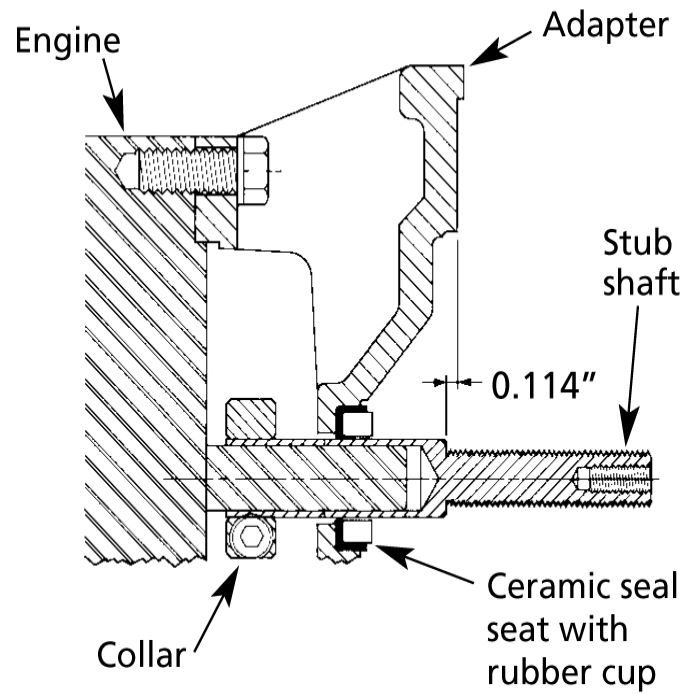

Figure 2 - Mechanical Seal Replacement - 4786-95
2. Stub shaft is to be set so face of shaft is between 0.114" from adapter face (See Figure 2).